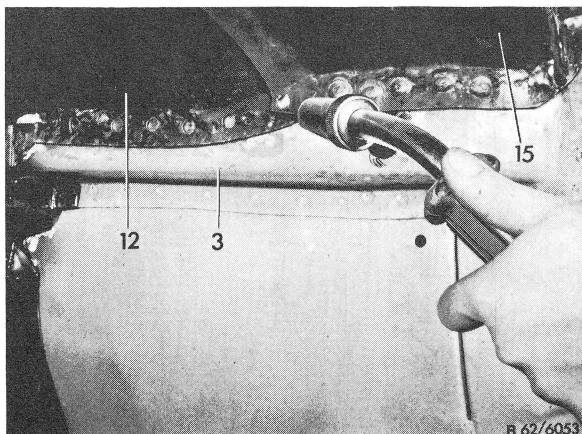
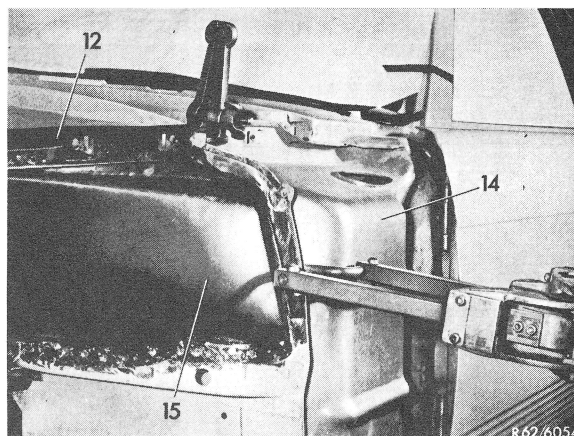

Fig. 7
Fig 8
19 Connect wheel housing sheet metal (12) to front wall reinforcement (3) by plug welding (Fig. 7).
21 Spot weld wheel housing strut (15) to connecting panel (14) (Fig. 8) and connect to front wall reinforcement (3) by plug welding (Fig. 7).